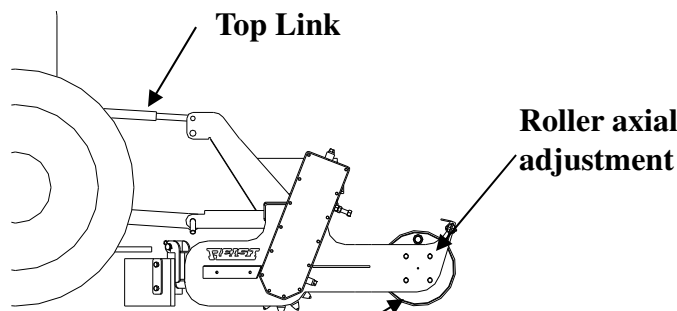

Fig. 1
5. Lower Roto-Groomer to ground, putting 3 PTH lever to max. down position and adjust top link until front rotor and rear roller touches the ground. See fig. 1.